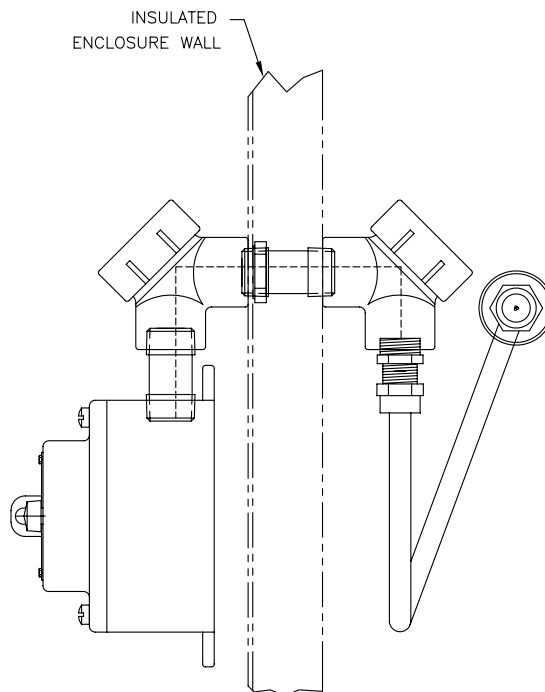

Figure 21 Assembled Power Switch
- 2) Holding the Box Assembly in place on the outside of the enclosure, Insert end of the Internal Assembly into the elbow of the Box Assembly (see Figure 21).
- 8) Screw conduit nut drive into outlet box port (see Figure 21)